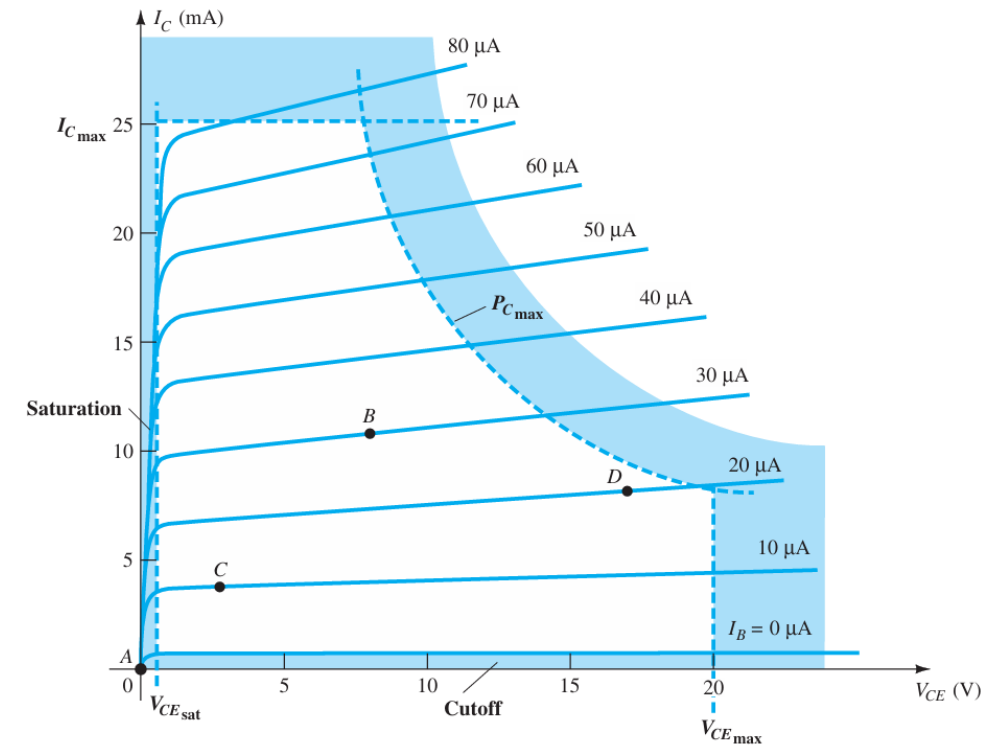

FIG. 4.1
- Figure 4.1 shows a general output device characteristic with four operating points indicated.
The maximum ratings are indicated on the characteristics of Fig. 4.1 by